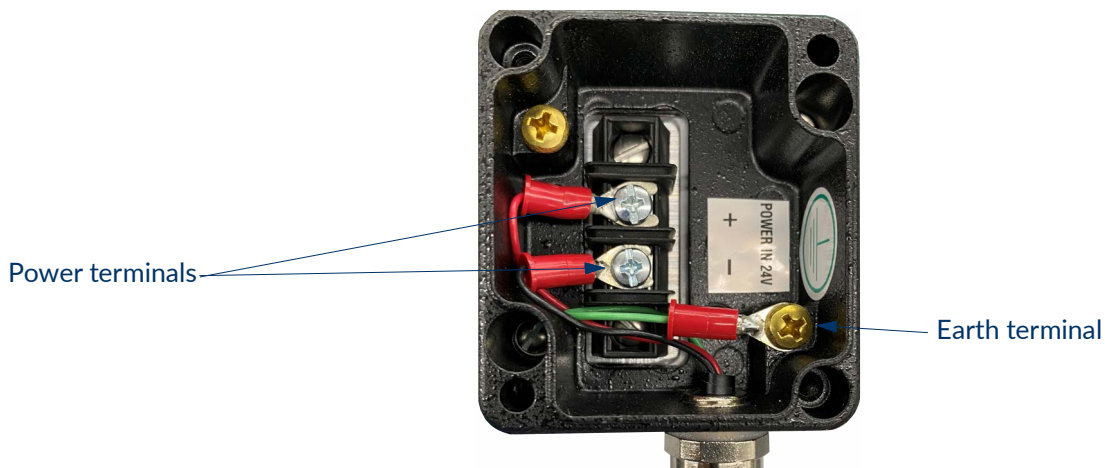

Figure 3. Wiring and connections
1. Apply power to your analyzer (refer to Figure 3 on page 10 for guidance).